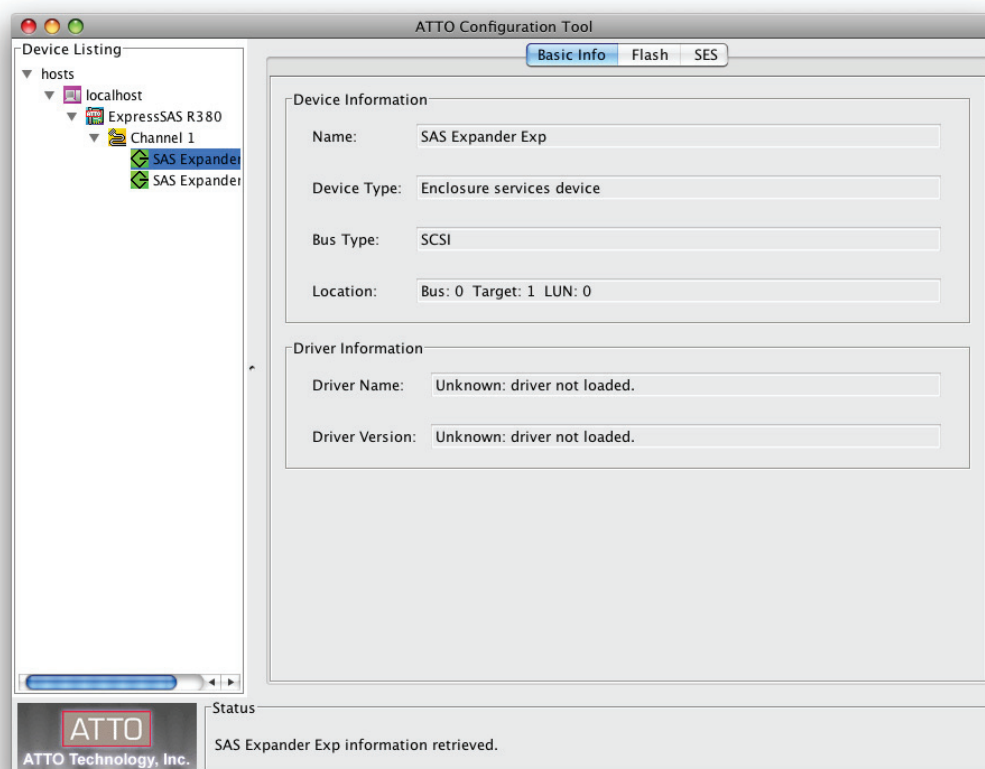

Figure 19
1. Select the Fusion drive enclosure from the Device Listing tree in the Configuration Tool. See **Figure 19** on page 22.